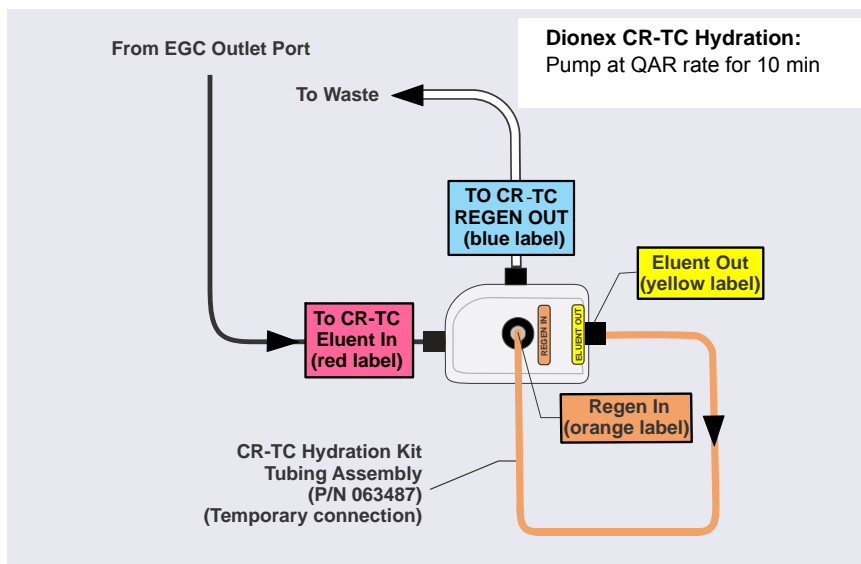

Figure 4-29. Dionex CR-TC 600 Plumbing for Hydration: Analytical Flow Version
3. Connect the hydration tubing as shown in Figure 4-29.